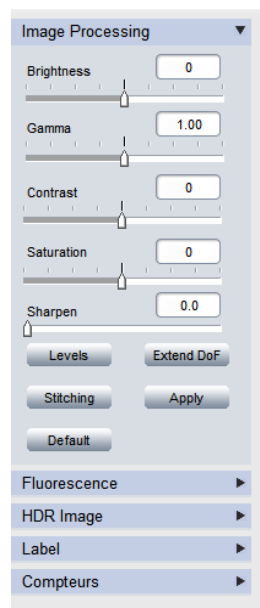

Fig.4-4. Imaging processing
- (1) Click on **Image** tab, get the image processing functions (Fig.4-4).
- (2) Provide Focus stacking, HDR, Fluorescence Combination functions etc.